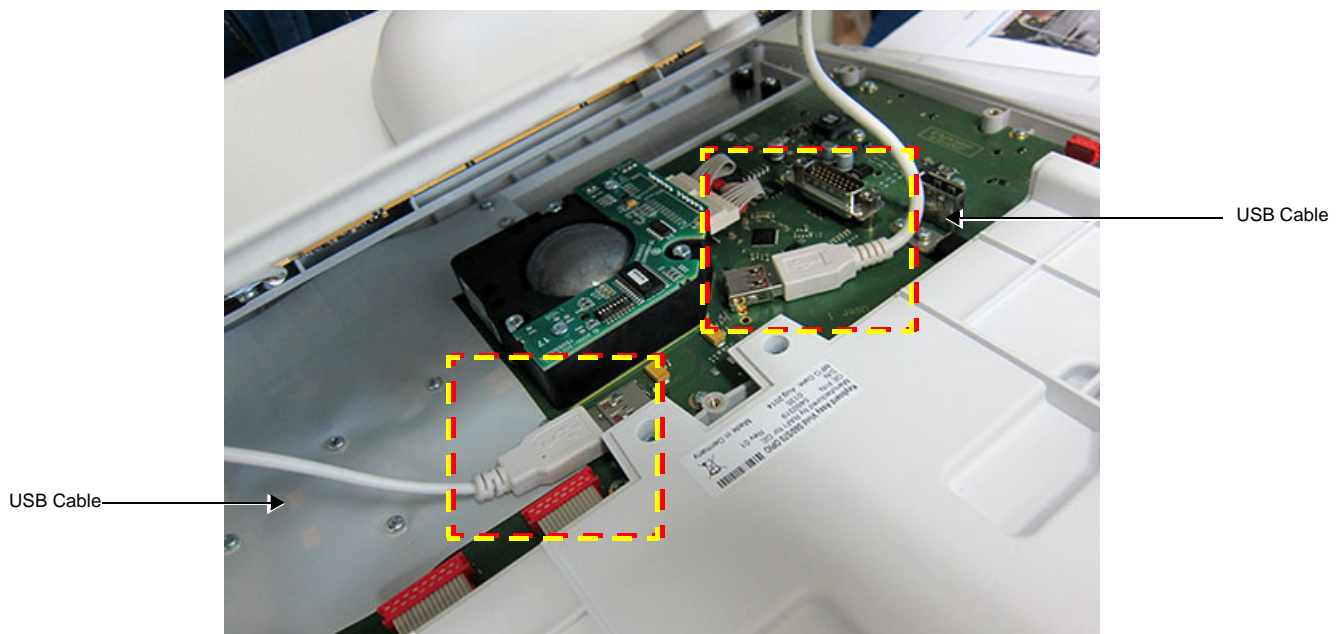

Figure 8-87 Location of USB Cables
- 4.) Gently lift the bottom cover (see note below) and disconnect the two USB cables from the side of the trackball, as shown in Figure 8-87 (see additional note below).